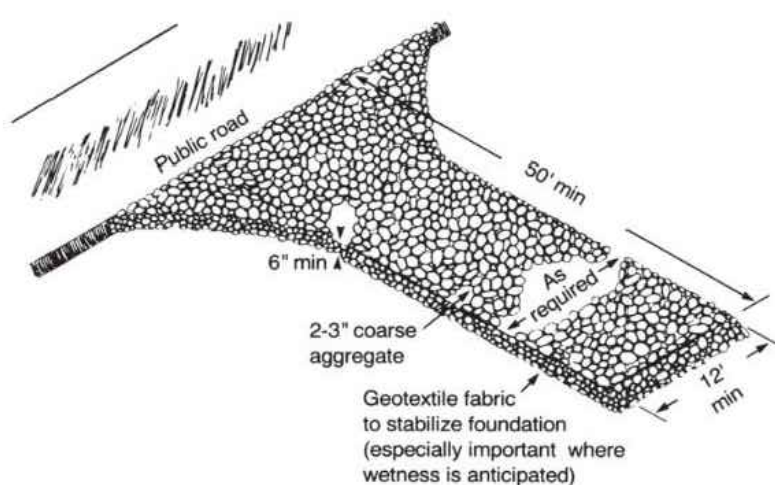

Figure 6.06b Plan of temporary construction entrance/exit.
- Thickness: 6 inches minimum (Figure 6.06b).